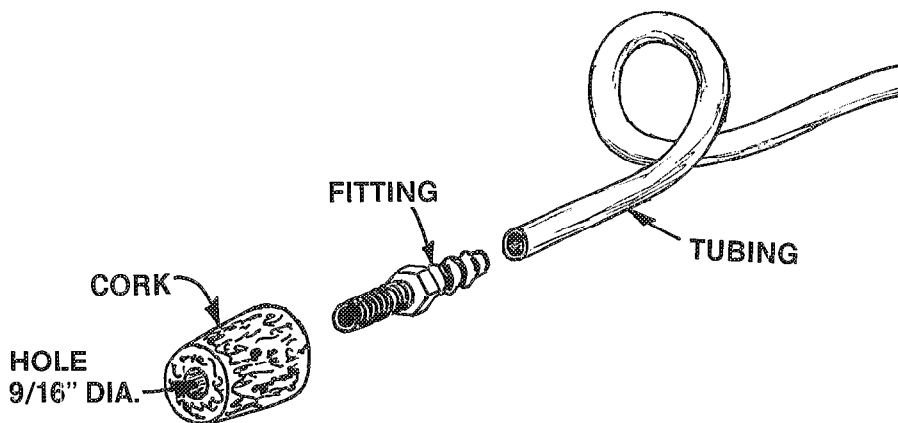

Figure 2
**D**ick Bittinger of the Reading-Lancaster Chapter sent in an idea for steaming bushings, etc., using any kind of container that will boil water and a few simple hardware items as shown in **Figure 2**. Called the "Keener Steamer", presumably after Leavitt Keener, it allows the technician to direct steam anywhere within reach of the plastic tubing.